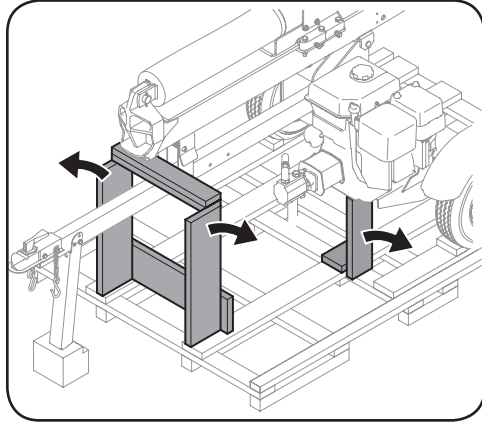

Figure 3-6
1. Cut the two nylon straps securing the log splitter to the crate, one on each side of the reservoir tank, near each fender. There are also two supports found on the log splitter crate, one beneath the engine and one beneath the beam. Carefully cut and discard each tie-strap and remove and discard each support. See Figure 3-6.